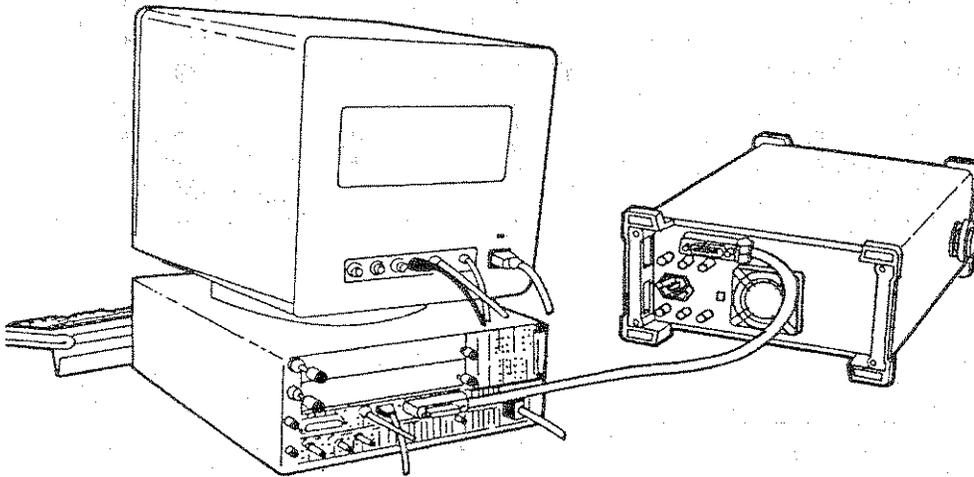

Figure 1-2
1. Connect the analyzer to the computer using the HP-IB cable as shown in Figure 1-2.